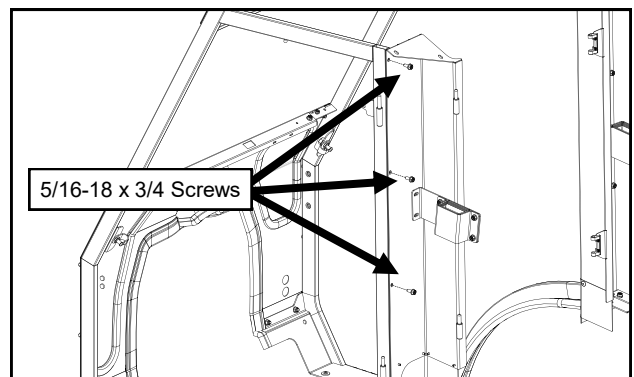

Fig. 8.1 (Rear Leg to Side Frame Fasteners)
8.1 Install the left side rear leg to the back of the side frame using the (3) upper most holes as shown in Figure 8.1.